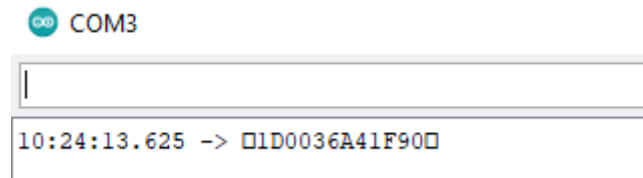

Figure 11.3: The RFID Tag
35. The tag of the card will be printed to serial monitor as shown in Figure 11.3.